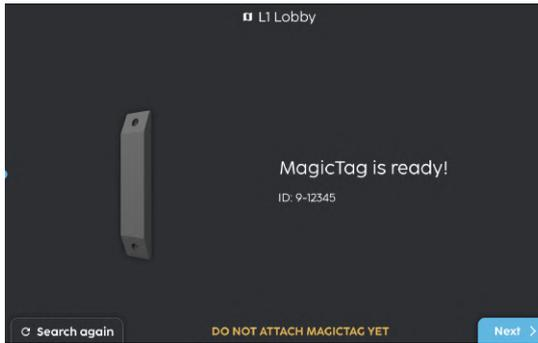
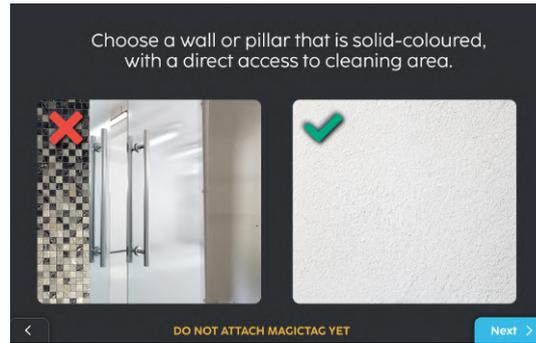

FIGURE 4-11
FIGURE 4-12
5. Once the MagicTag is detected (**Fig. 4-11**), verify that the ID (9-XXXXX) on the touchscreen matches that on the MagicTag. Choose a well-lit plain wall to place the MagicTag (**Fig. 4-12**).
8. After choosing the location, press 'Next' (**Fig. 4-12**). Push the machine to face the wall at the chosen location. Ensure that the machine is ~30 cm from the wall.